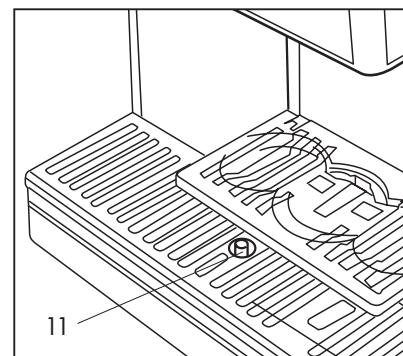

Fig. 17
When the red level float in the tray (11) protrudes from the hole (**Fig. 17**) it means that the water collected in the drip tray is exceeding the maximum level.